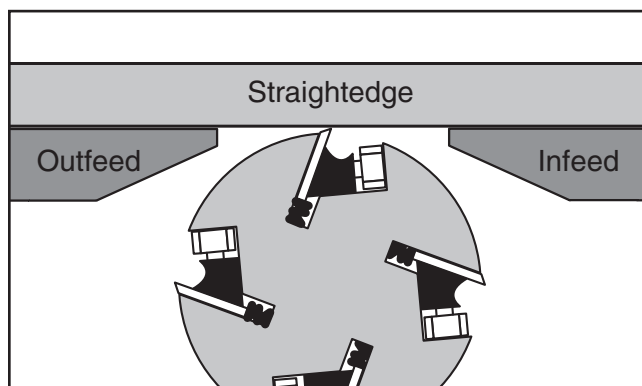

Figure 46. Infeed table adjusted even with outfeed table and knife at TDC.
3. Adjust the infeed table until it is level with the outfeed table, as illustrated in **Figure 46**.